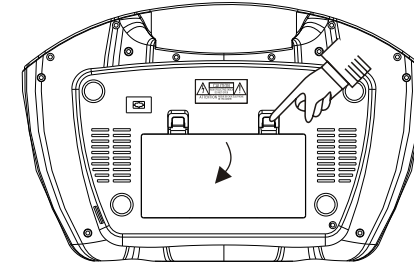

Figure 1
- Remove the battery compartment door by pressing downward on the two tabs as shown in Figure 1 below.